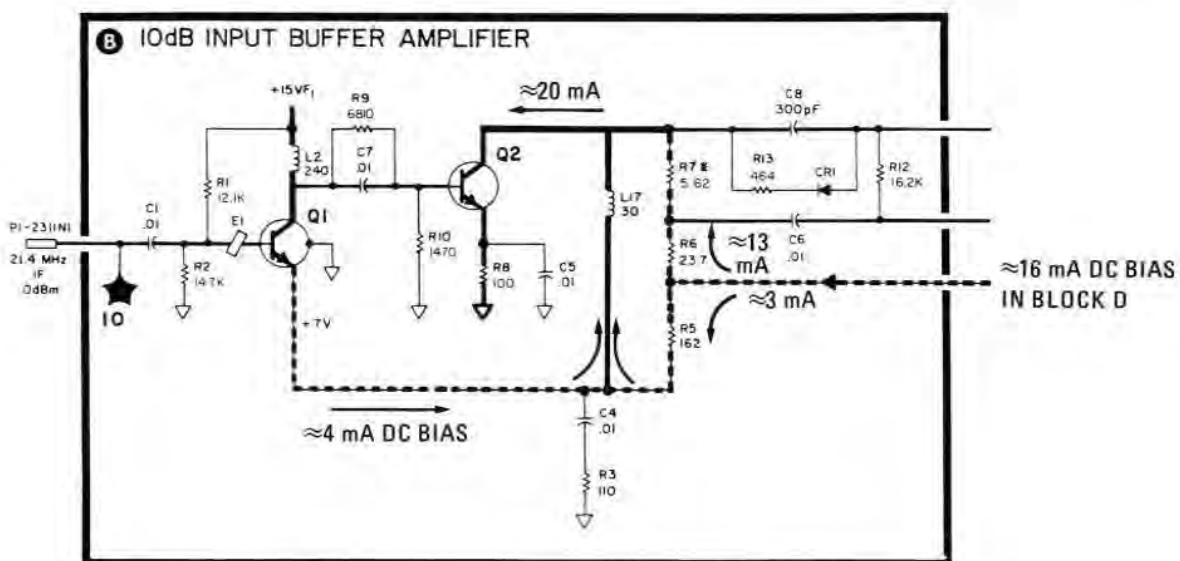
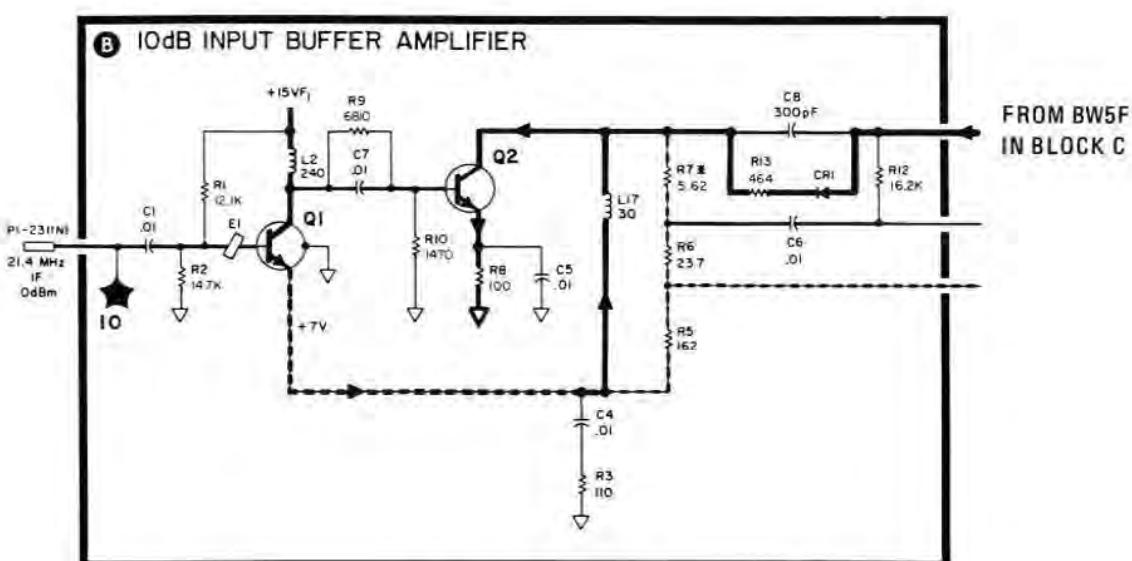

FIGURE 8-35. DC BIAS PATH DURING CRYSTAL POLE OPERATION
FIGURE 8-36. DC BIAS PATH DURING LC POLE OPERATION
Two current paths are used for dc bias in the input buffer amplifier: one for crystal filter poles, another for LC filter poles. When a crystal-filtered bandwidth (≤ 30 kHz) is selected, Q3 (block (D)) and Q1 are the sources for the current through Q2 (see Figure 8-35). The base voltage of Q2 is fixed by the divider R9 and R10 while the emitter is fixed by R8. The collector, therefore, becomes a constant-current sink for 20 mA of current supplied by Q1 and Q3. A decrease in the current supplied by Q3 results in increased current through Q1, keeping the current through Q2 constant. If an LC-filtered bandwidth is selected, BW5F (filtered bandwidth control line 5 in block (C)) supplies current via CR1 and R13 (see Figure 8-36); Q3 is effectively removed from the circuit.
When an LC filtered bandwidth is selected, BW5F is at +15V; BW7F is at a voltage greater than or equal to +6.8V and supplies bandwidth-determining bias current to CR3. Supply line +VF BIAS is always at +6.8V. Control line BW5F reverse biases CR8 (block (B)), disabling the crystal pole, and forward biases CR1 (block (B)) opening the dc bias path to Q2 (see Figure 8-36). During LC operation, CR6 is reverse biased, keeping C28 out of the circuit. When a crystal filtered bandwidth is selected, BW5F forward biases CR6 and allows C28 to ground the signal path.